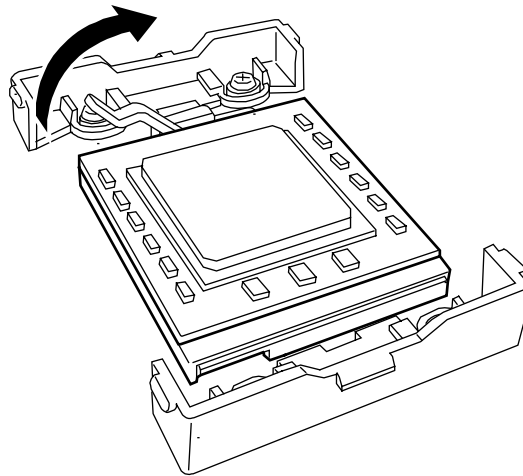

Figure 4-15. Lowering the Processor Locking Lever
9. Lower the locking bar completely. See Figure 4-15.